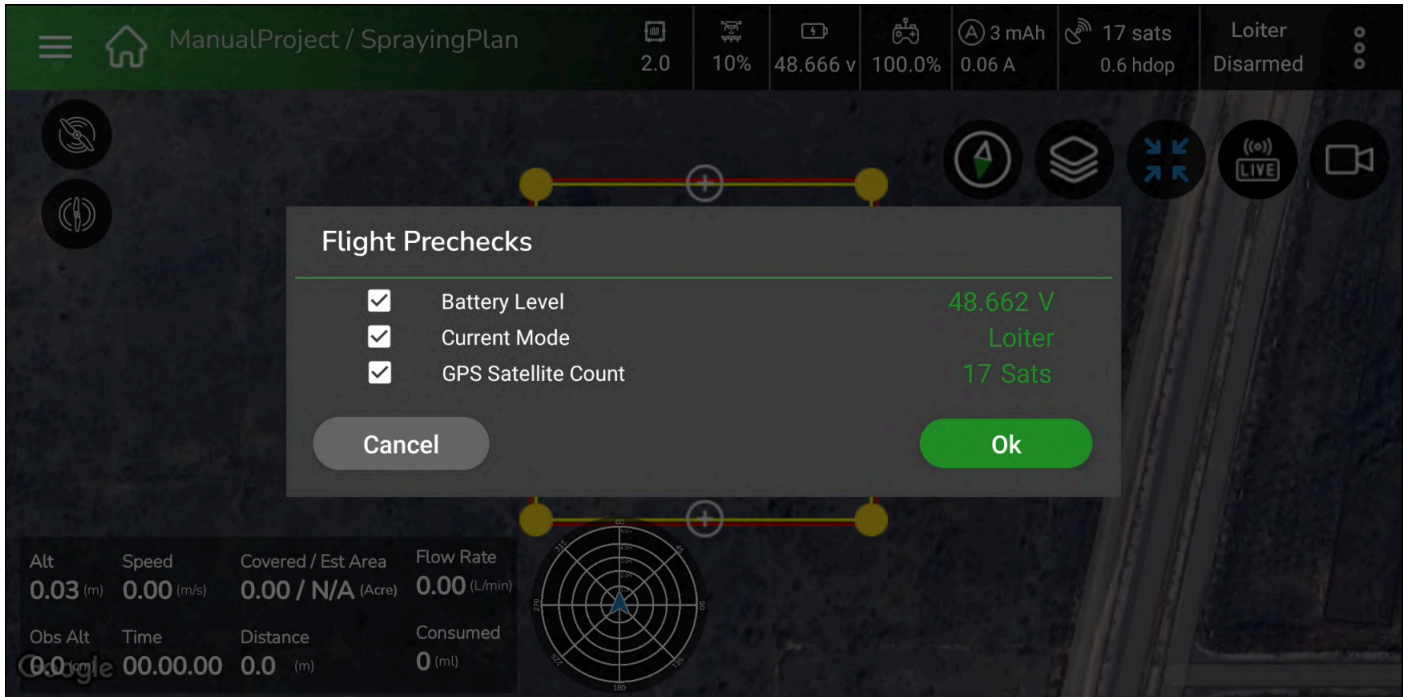

Figure 14: AeroGCS GREEN Pre-flight Checks
- Then click on the “**Start Here**” icon as shown in figure 14.